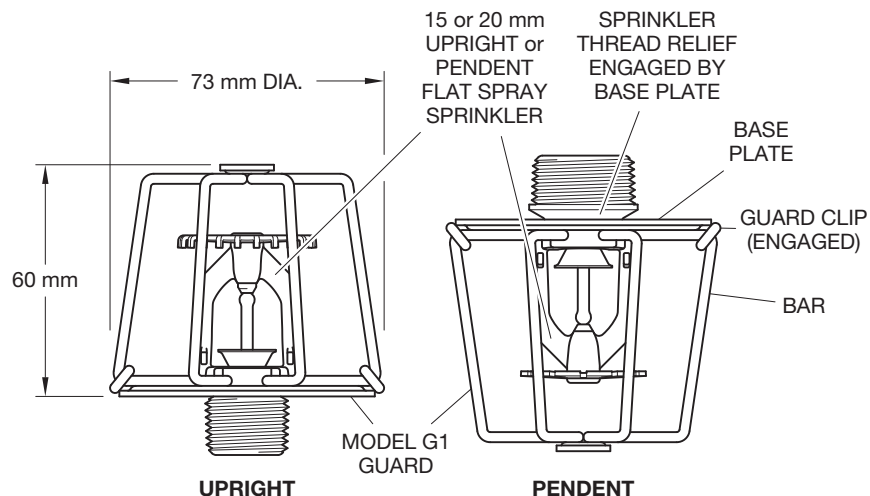

FIGURE 4
With reference to Figures 4 and 9, 15 mm or 20 mm Upright or Pendent Sprinklers with Model G1 Guard must be installed in accordance with this section:
Step 3. With the Sprinkler Guard positioned on the Thread Relief portion of the sprinkler, as applicable, engage the Clips and then slide the Clips until they seat against the Base Plate to complete the installation as shown in Figure 4.